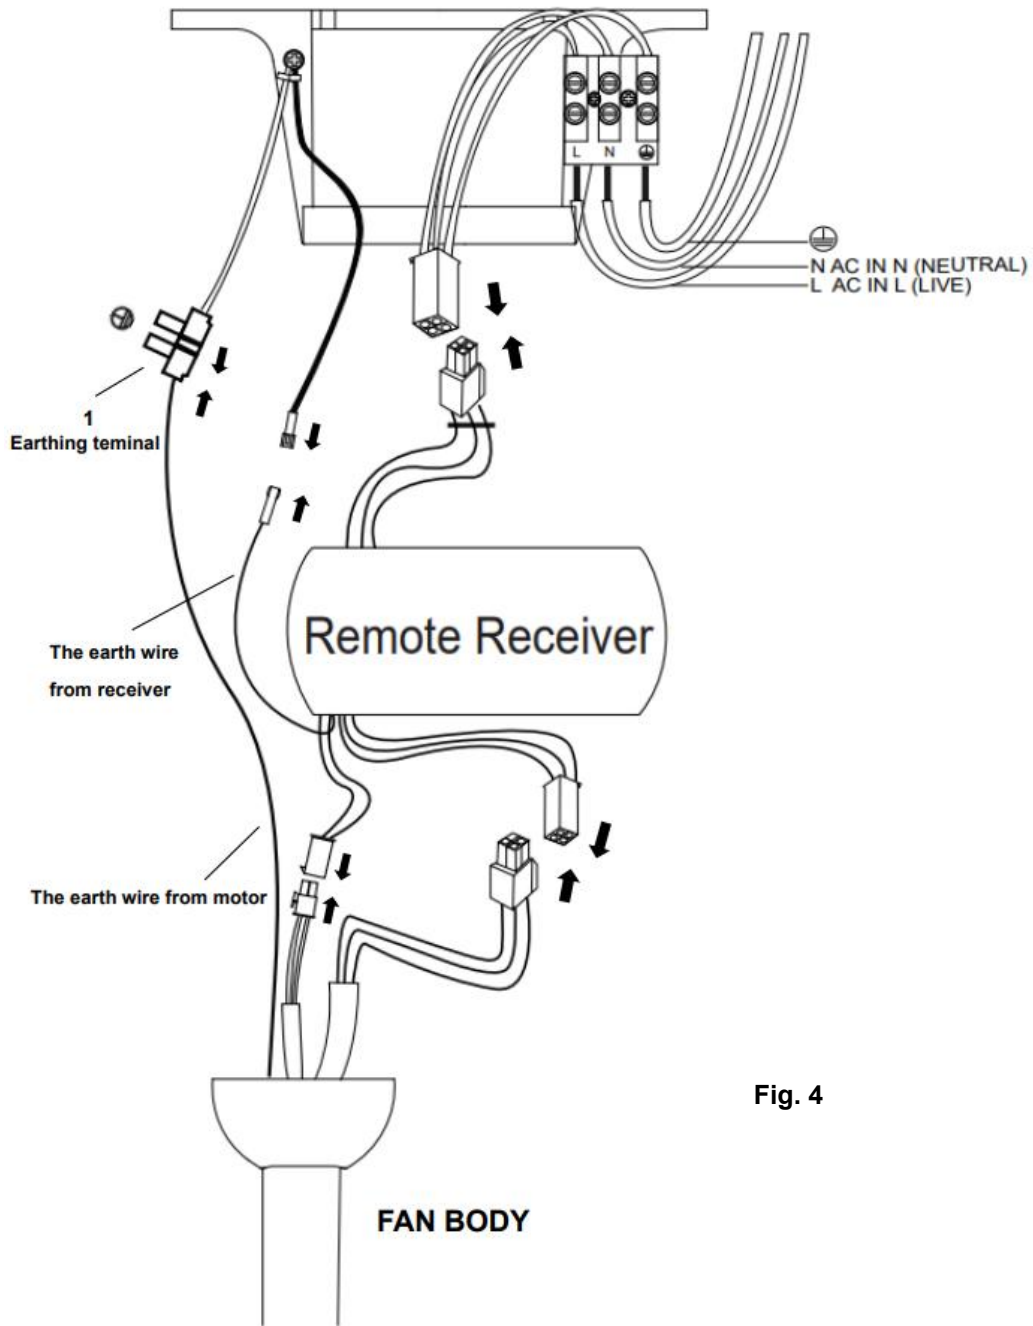

Fig. 4
PREPARE AND COMPLETE THE ELECTRICAL WIRING --- WIRING DIAGRAM (FIG. 4)
NOTE: Ensure the motor earth wire is connected to the single earthing terminal block “1” in the diagram below (Fig. 4).
From mains supply to mounting bracket terminal block: (Fig. 4)
4. Connect the motor earth wire to the single earthing terminal block “1” in the diagram below. (Fig. 4)